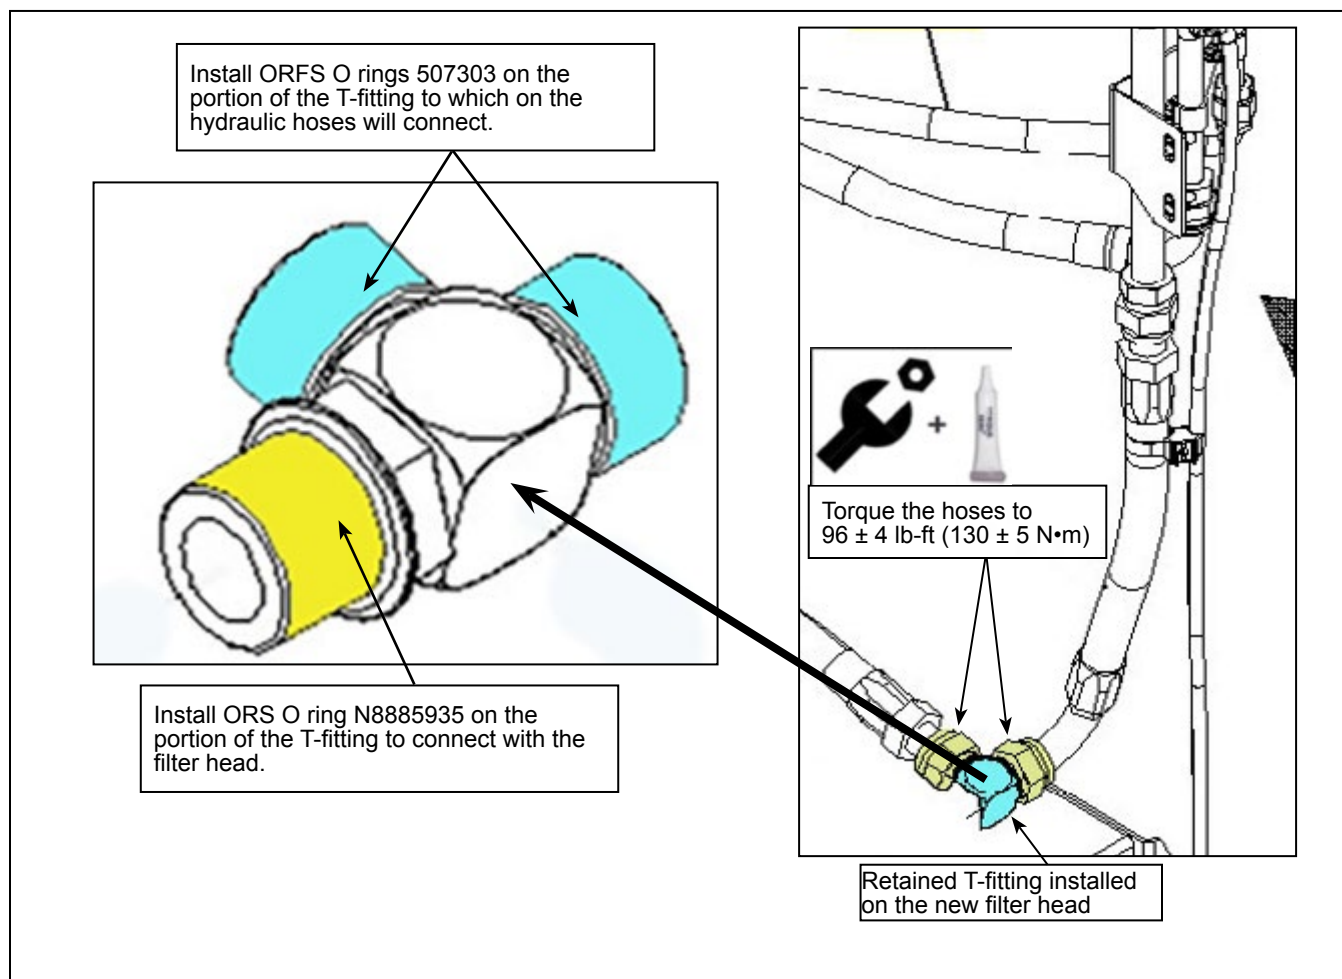

Figure 6 - O ring and Torque Value of the T-fitting
- 1.26. Install the ORS O ring N8885935 and the ORFS O ring 507303. See Figure 6.
- 1.27. Connect the new N8905945 hose and the hydraulic hose disconnected at step 1.7, to the hydraulic T-fitting on the filter head. See Figure 6 for torque value.